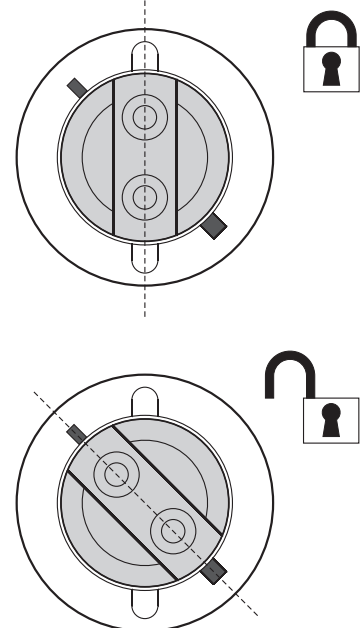

Figure 2: Lamp removal / refitting
4. Grasp the ceramic lamp base, twist it 45° counterclockwise and withdraw the lamp from the fixture as shown in Figure 2.